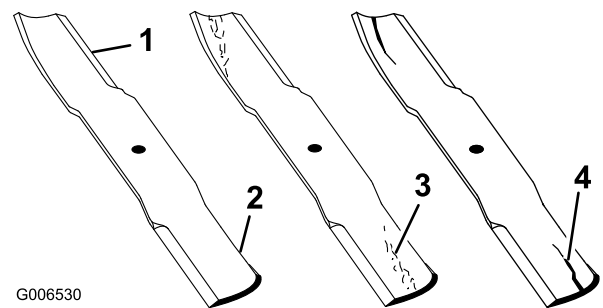

Figure 98
1. Inspect the cutting edges (Figure 98). If the edges are not sharp or have nicks, remove and sharpen the blades. Refer to Sharpening the Blades.
2. Inspect the blades, especially the curved area (Figure 98). If you notice any damage, wear, or a slot forming in this area (Figure 98), immediately install a new blade.